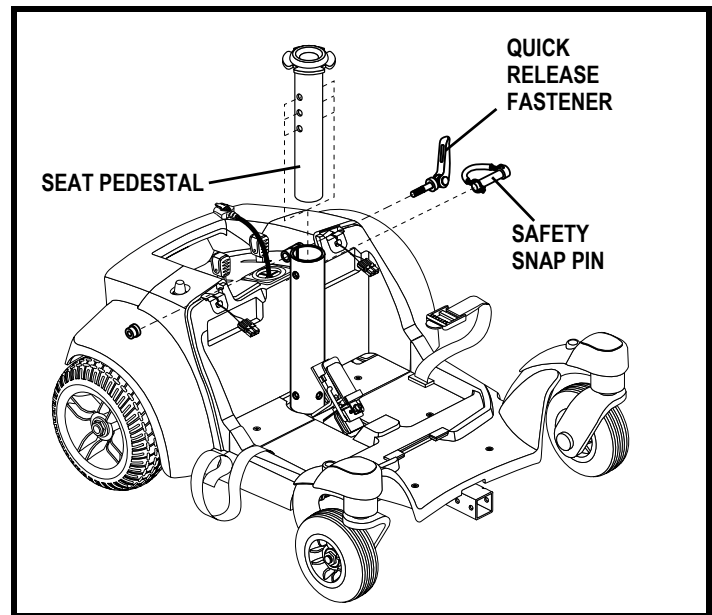
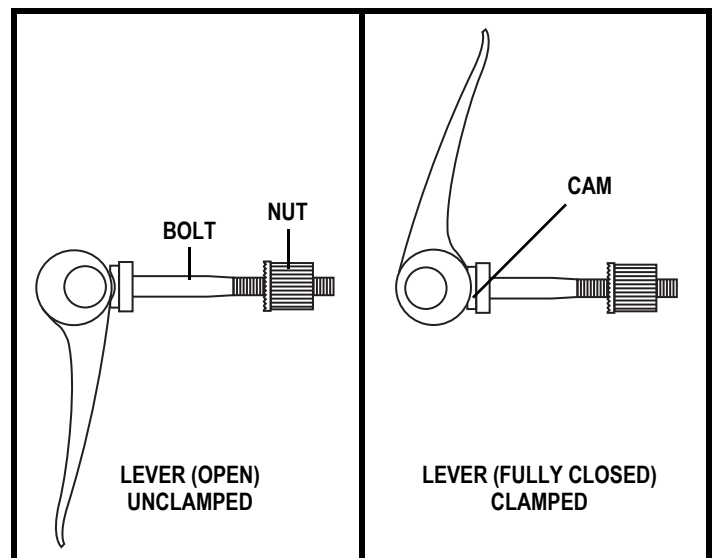

Figure 10. Seat Height Adjustment
Figure 11. Quick Release Fastener Operation
4. Loosen the quick release fastener. **See figure 10.**
8. Tighten the quick release fastener. **See figure 11.**
The quick release fastener removes excess play in the seat pedestal. **See figure 10.** The quick release fastener consists of a bolt, a lever, and a nut. **See figure 11.** The lever has a cam on the end that allows it to clamp into place. The quick release fastener has two states: clamped and unclamped. When the lever is open, the quick release fastener is unclamped. When the lever is closed, the quick release fastener is clamped.